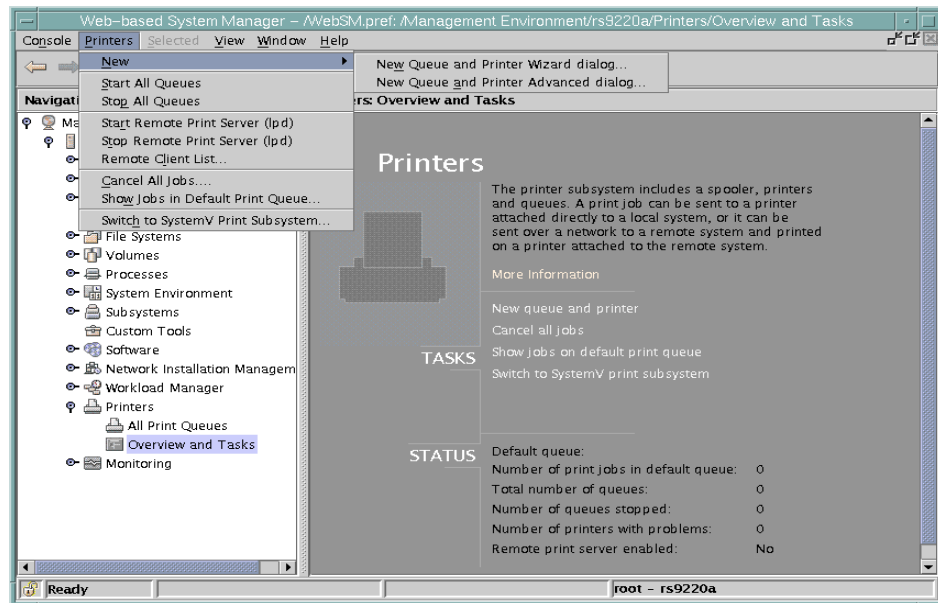

Figure 60. Overview and tasks panel for printers
1. Start the Web-based System Manager either from the CDE **Application Manager -> System\_Admin -> Management Console**, or from the command line using `wsm`. From the main **Management Environment** panel, open the **Printers** container, then the **Overview and Tasks** object. A panel similar to Figure 60 should appear.